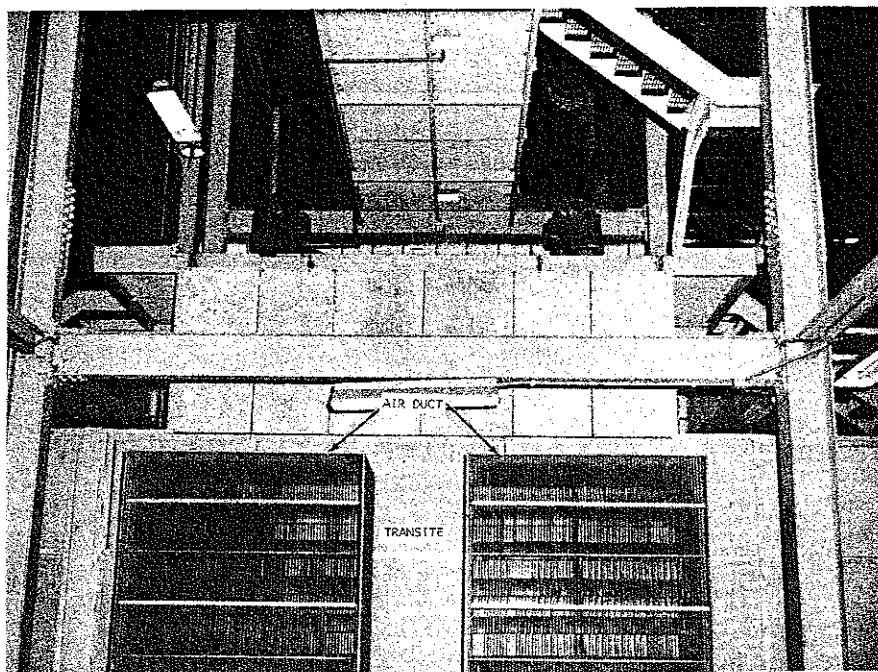

FIG. 3 INLET - OUTLET POSITION
- b) If valve is at inlet or outlet position (Fig. 3):
- c) Use balance beam and side collar when changing (AB) valve.